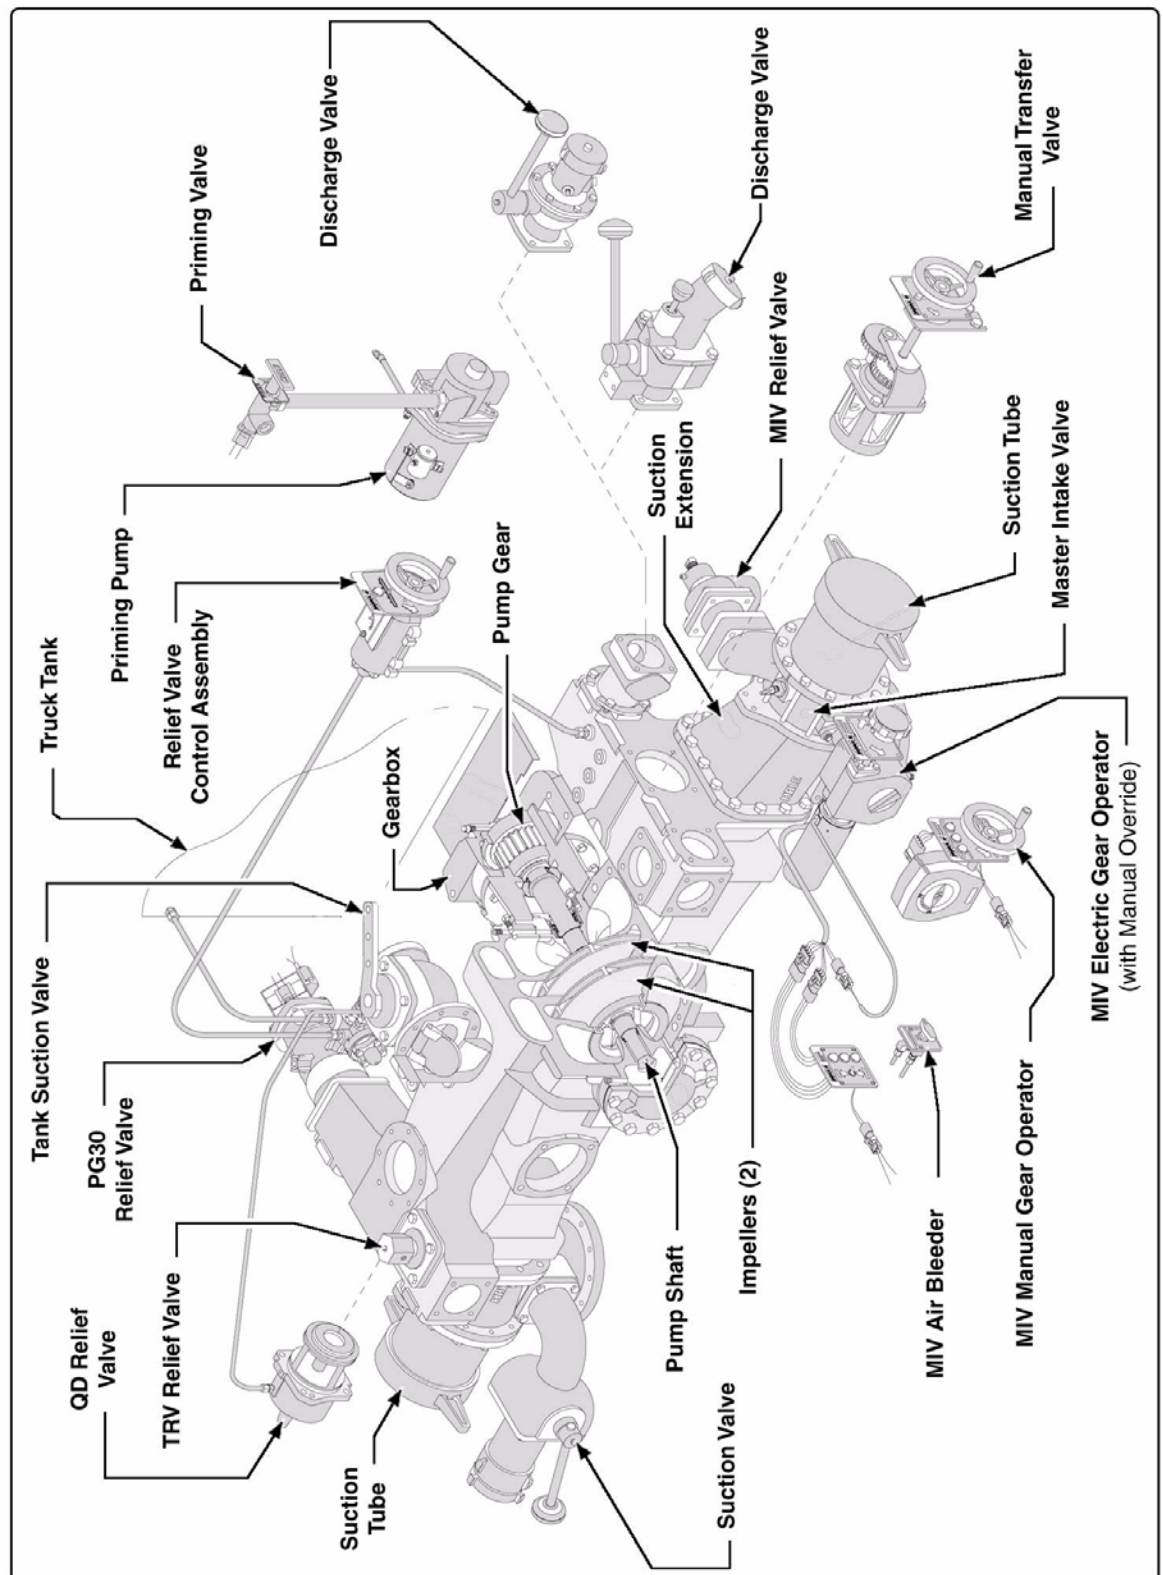

Figure 2-5: Two-Stage Pump Overview
Hale two-stage pumps use two (2) impellers and a transfer valve / switch to develop the required volume and pressure. (See Figure 2-5: “Two-Stage Pump Overview” on page 23.)